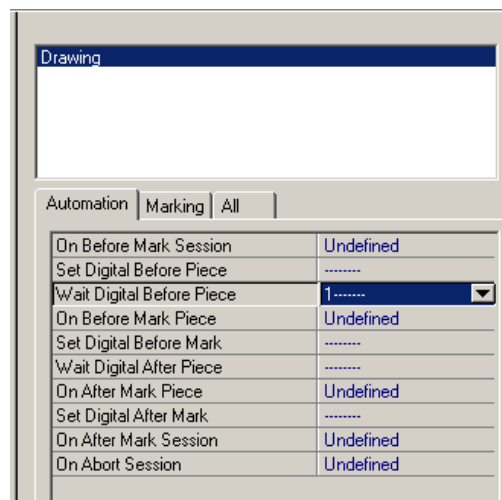

Figure 2 Wait Digital Before Piece automation
- 4 Click the arrow button and choose *Set*. The Automation tab should appear as shown in Figure 2.